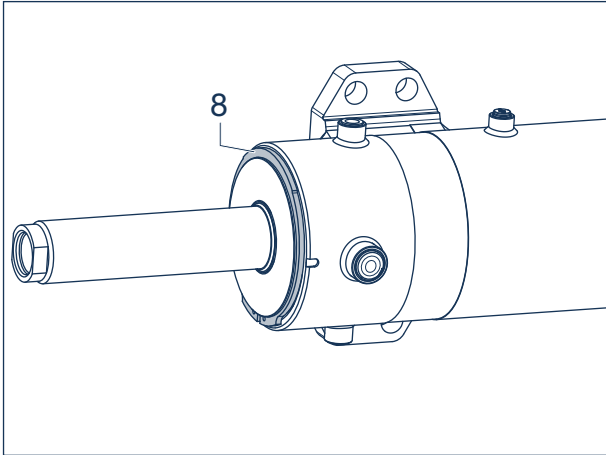

Figure 32
[11] From direction of the guide bushing (5) use an mounting aid (e.g. old O-ring, cyan colour on the Fig.32) to fill the groove of the retaining ring (8), thereafter insert the new O-ring (26).